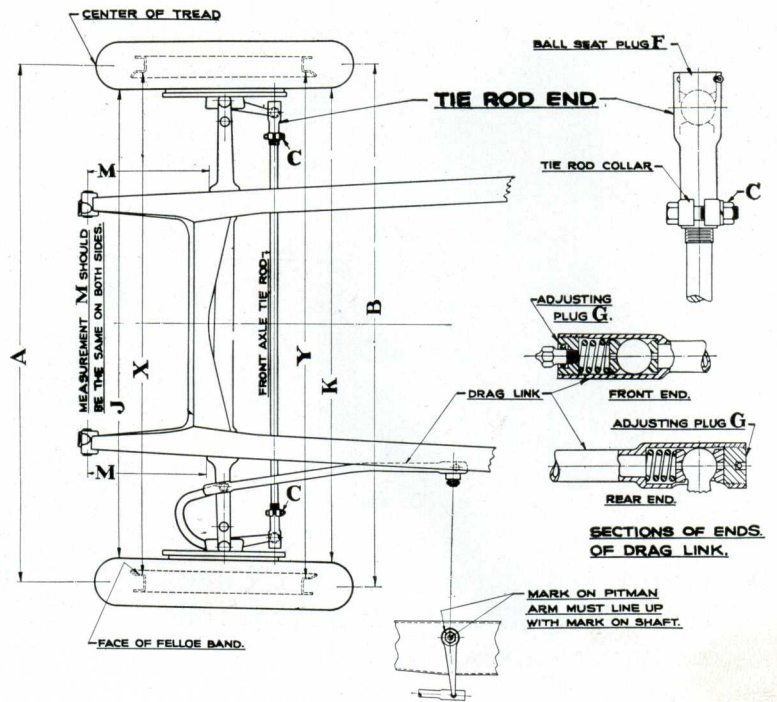

Fig. 64. Wheel Toe-in.
See Fig. 64.
7. TAKE LOOSENESS OUT OF FRONT AXLE TIE ROD. See Fig. 64.